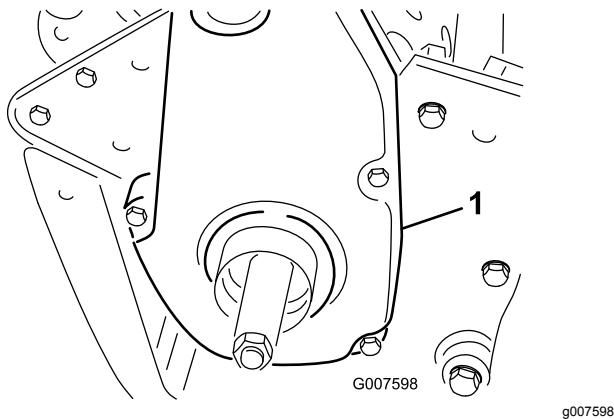

Figure 38
1. Remove the belt-cover mounting fasteners and the belt cover to expose the belt (Figure 38).